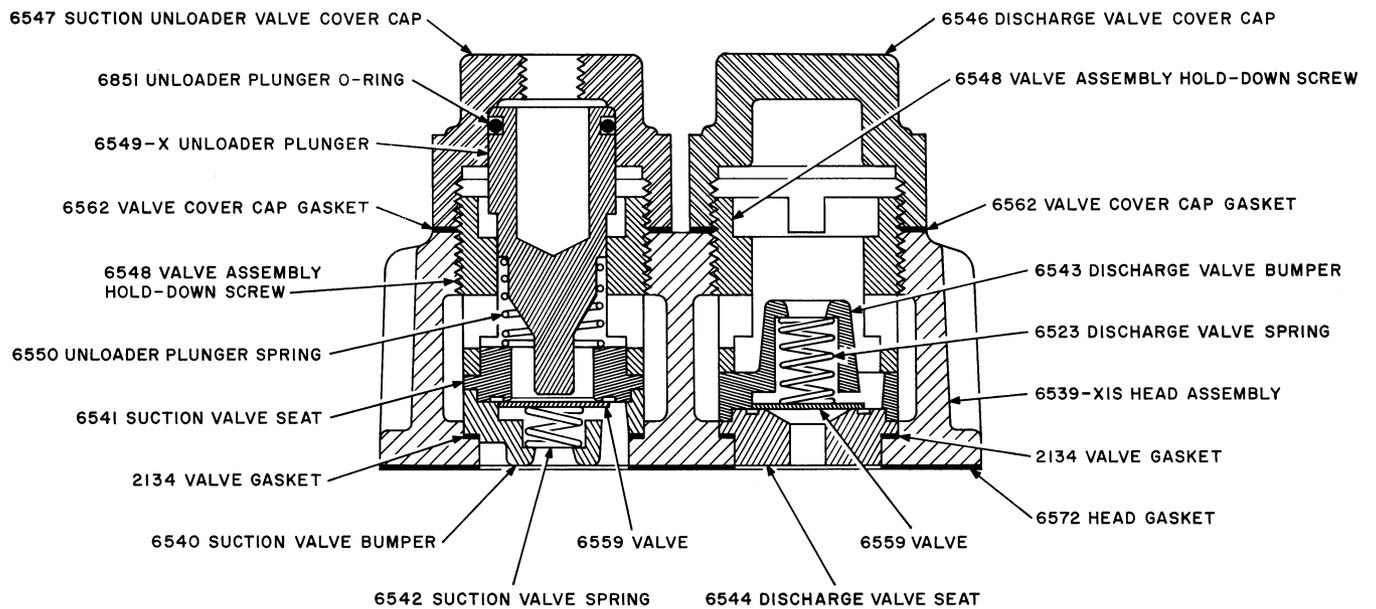

Fig. 7—KS-16432 L2 Air Dryer—Air Compressor Head Assembly (Suction Unloader and Discharge Valves)
Suction Unloader Valves—L2 Dryers (Fig. 7)
(1) Disconnect the tubing attached to the fittings in the two suction unloader valve cover caps (Fig. 7) using the R-2512 8-inch wrench. Remove one suction unloader valve cover cap using the No. 247 1-1/4 inch wrench. Remove the unloader plunger and plunger spring. Remove and discard the plunger O-ring, spring, and the valve cover cap gasket.
(2) Clean the parts removed, including inside the cover cap, with a KS-14666 Cloth moistened with petroleum spirits, then wipe with a clean, dry cloth.
(3) Place the unloader plunger spring in the holddown screw. Mount a new O-ring on the unloader plunger. Wipe the outside of the plunger and the inside of the valve cover cap with a KS-14666 Cloth moistened with KS-16729 L1 Oil. Replace the cover cap gasket and mount the cap.
(1) If necessary to gain access to the discharge valve cover caps (Fig. 7), remove the tubing connected between the two suction unloader valve cover caps using the R-2512 8-inch wrench. Remove one of the discharge valve cover caps and the valve assembly holddown screw using the Quincy No. N6843 Valve Removal Tool and 15-inch monkey wrench (Billings and Spencer No. 90). Remove the discharge valve bumper, valve spring, valve, and valve seat. Examine the valve gasket and replace if necessary.
(2) Clean the parts removed with a KS-14666 Cloth moistened with petroleum spirits and then a clean, dry cloth. Before reassembling the valve parts, check the valve spring by placing the spring and the valve in the valve bumper and depressing and releasing the valve. If the valve does not snap back when released, replace the valve spring. Substitute other new parts if necessary and then reassemble the valve parts as shown in Fig. 7. Replace the cap gasket before mounting the valve cover cap.
(3) Similarly clean the other discharge valve and reconnect the flexible tubing.
(4) Reconnect the ac power supply and turn on the master stop-start switch.